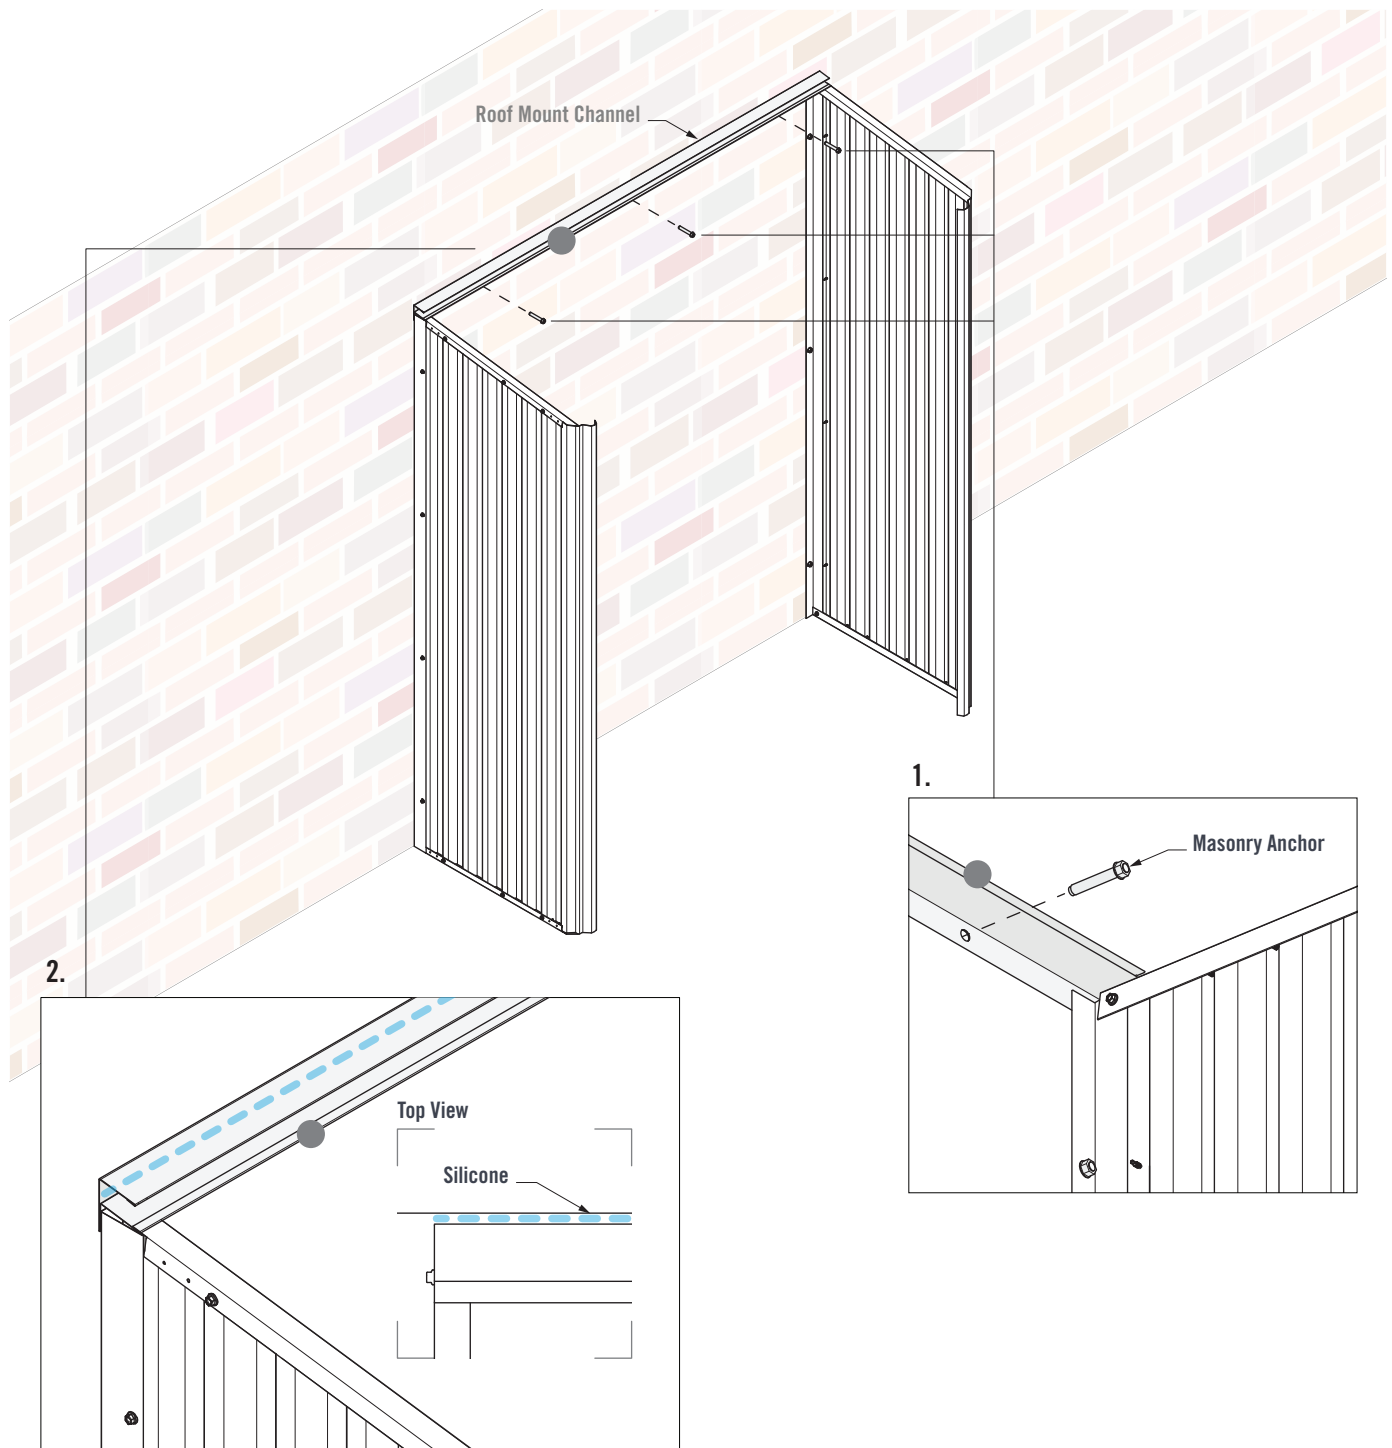

FIGURE 6.2
1. Ensure both ends of the Roof Mount Channel are in-line with the Wall Mount Channels. Mark and drill three 10mm holes through the pilot holes of the Roof Mount Channel and into the building wall. Loosely install three M10x47 Masonry Anchors (Figure 6.2).
2. Before tightening the Masonry Anchors, apply a bead of silicone between the Roof Mount Channel and building wall to prevent rain entering the shed (Figure 6.2).